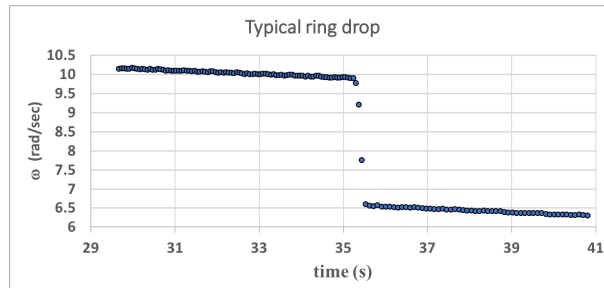

Figure 3: Ring drop, superimposed on gradual angular deceleration.
4. While the grey disk is spinning hold the ring just above it. Carefully drop the ring onto the disk so that it remains centered, and afterwards rotates at the same angular velocity as the disk. Your data should look something like Fig. 3 below.